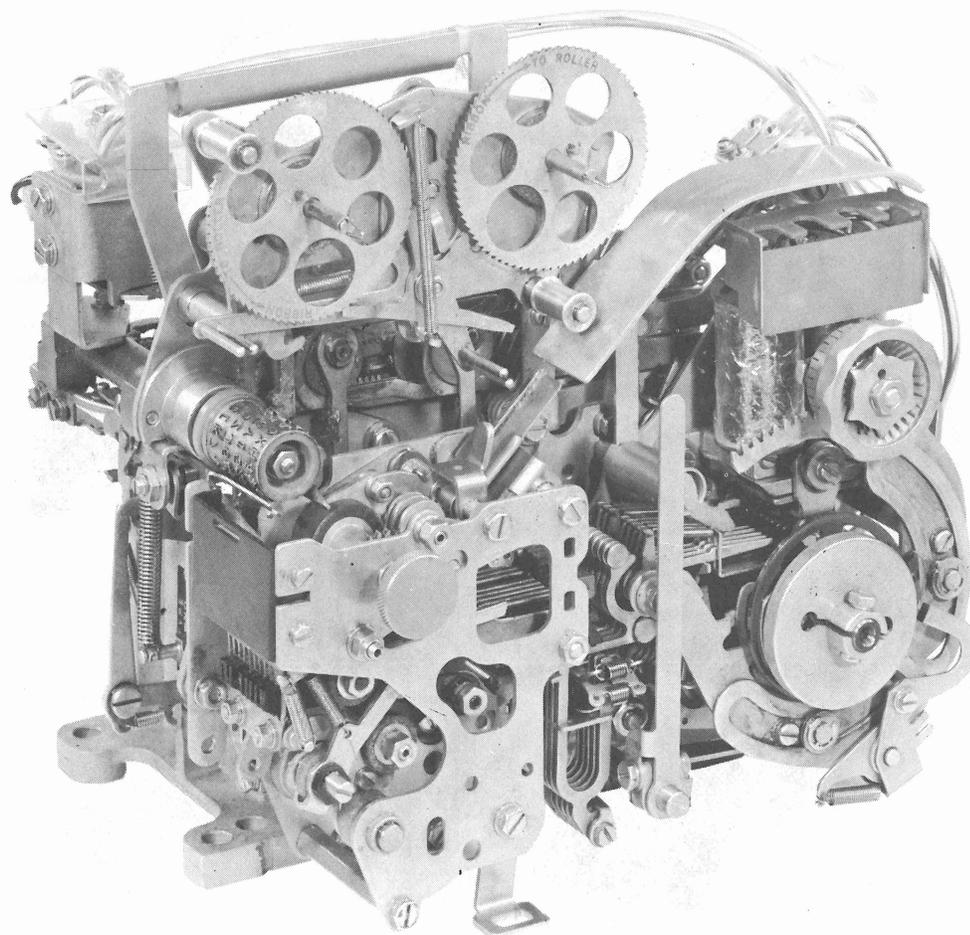

Figure 1 - Tape Printer (Left Front View)
1.01 This section provides the adjustments for the 35 tape printer (Figures 1 and 2).